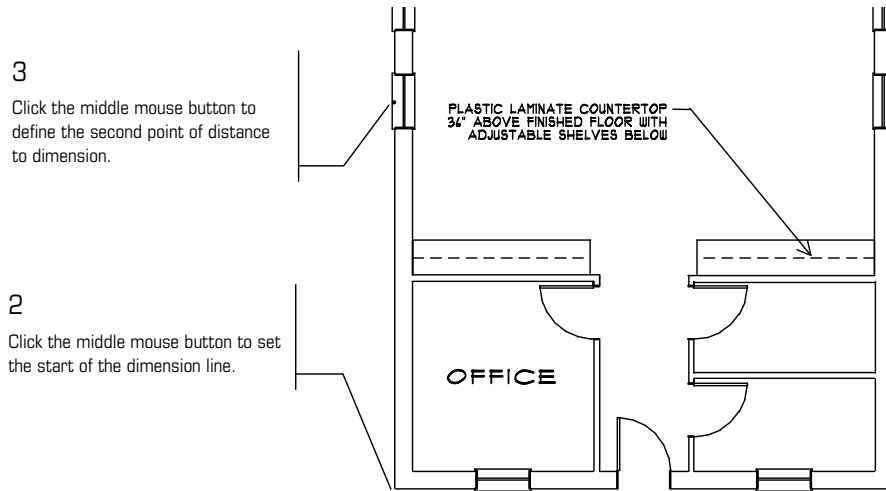

Figure 4.9: Placing the first dimension on the drawing
2. Move the cursor to the lower left corner of the exterior wall and click the middle mouse button or press (N) on the keyboard to object snap to the corner. You are prompted to *Select second point of distance to dimension.*
3. Move the cursor to the snap point of the window shown in Figure 4.9 and click the middle mouse button to snap to it. You are prompted with *Dimension which side of line?*